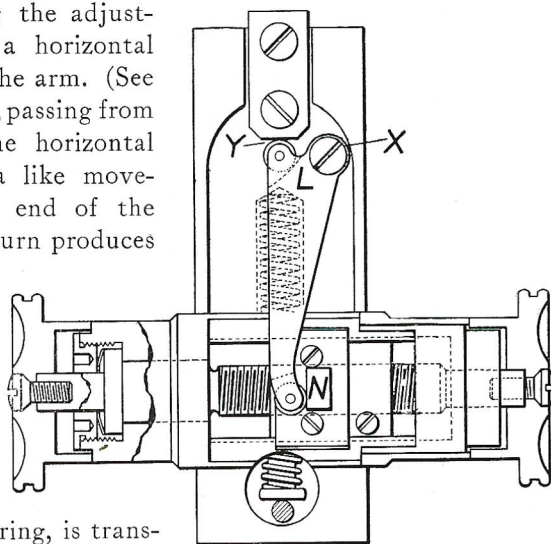

Fig. 6
**Fine Adjustment B** is represented in Nos. 5, 10, 15, 20, 22, 25 and 60. This adjustment is growing in favor, because of the convenience of having the adjustment buttons on a horizontal axis at the side of the arm. (See Fig. 6.) The nut, N, passing from side to side on the horizontal thread, produces a like movement of the lower end of the lever, L, which in turn produces a *direct up-and-down movement* at Y, the lever being pivoted at X. There is no lateral thrust.